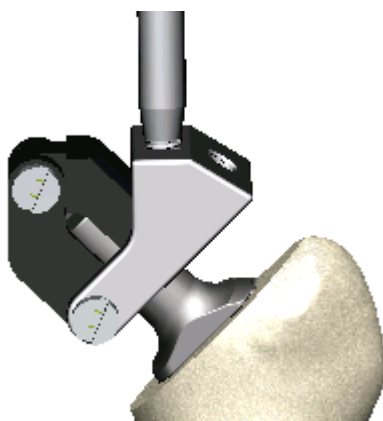

Figure 3: Stem-repositioner with screwed-in Extractor Bar M8 (detailed view)
- Taking into account the axis of the stem, screw the *Extractor Bar M8* into one of the two drill-holes of the *Stem-repositioner* until the cone is firmly in position (Figure 3).